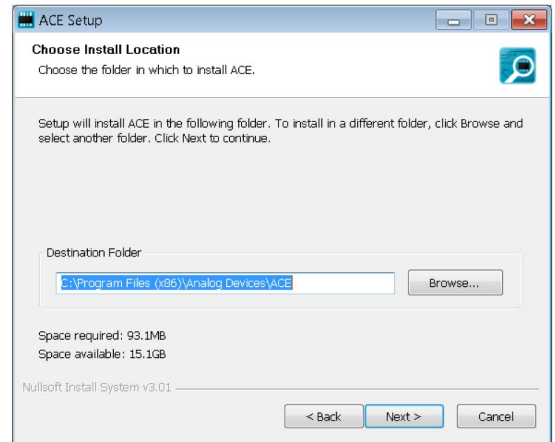

Figure 5. Choose Install Location
6. Choose an installation location and click **Next >** (see Figure 5).